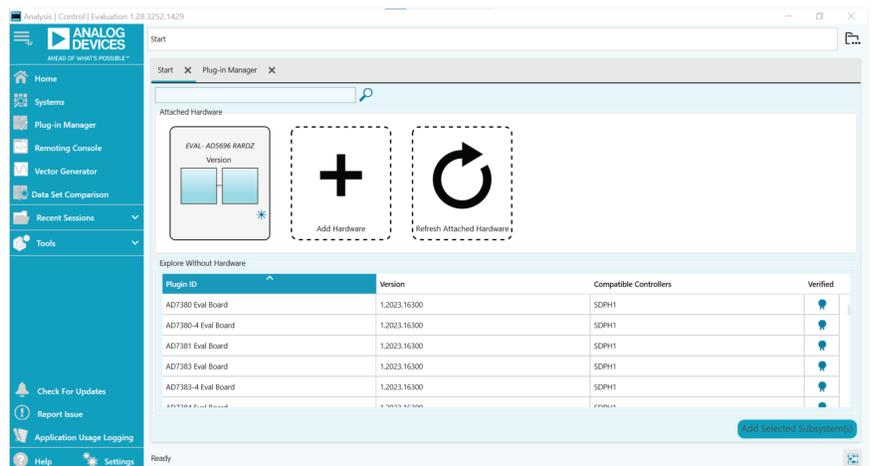
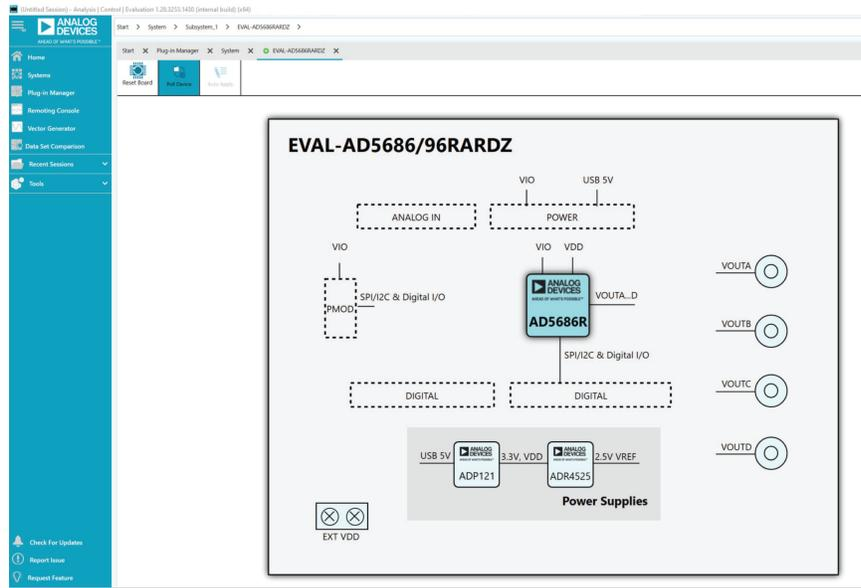
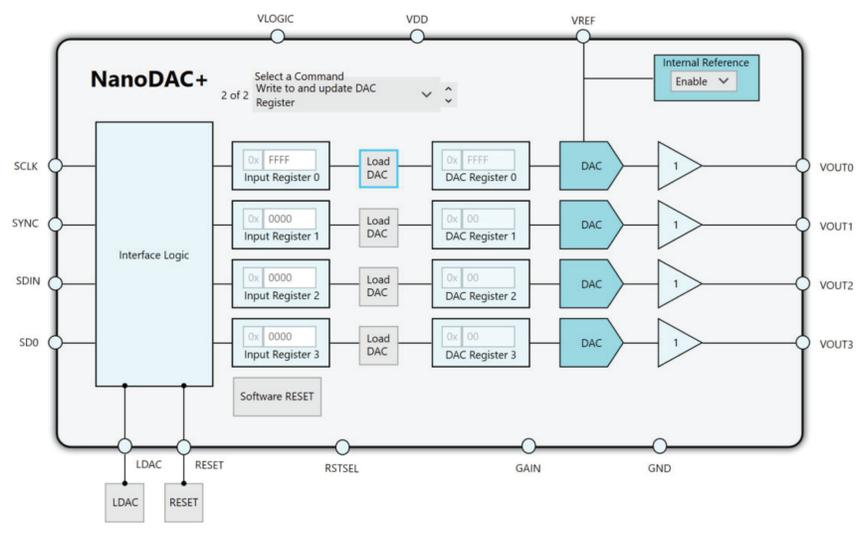
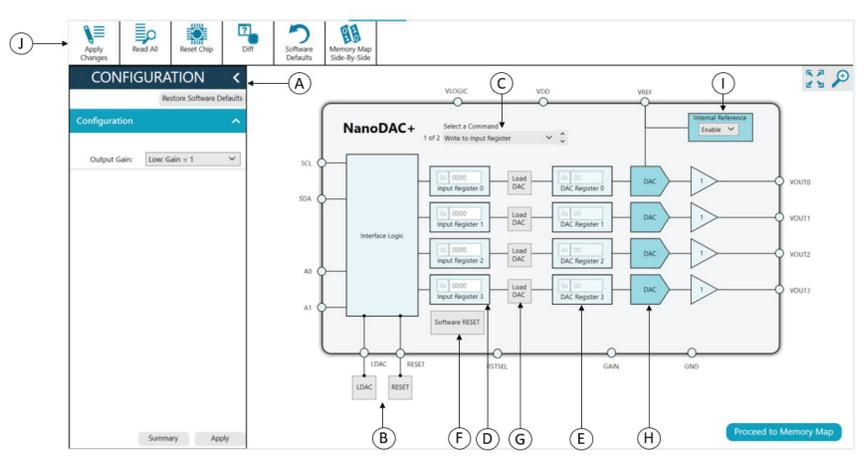

Figure 2. ACE Software Main Window
Figure 3. Board View of the EVAL-AD5686RARDZ or the EVAL-AD5696RARDZ
Figure 4. Chip Block Diagram View of the AD5686R or the AD5696R
Figure 5. Block Diagram with Labels
Figure 2 to Figure 4 for the EVAL-AD5686RARDZ but functionality is the same for the EVAL-AD5696RARDZ):
2. Run the ACE application, and the main window appears as shown in Figure 2. The EVAL-AD5686RARDZ or the EVAL-AD5696RARDZ evaluation board plugin appears in the **Attached Hardware** section of the **Start** tab.
3. Double-click the **EVAL-AD5686RARDZ** plugin or the **EVAL-AD5696RARDZ** plugin as shown in Figure 2 to open the board view as shown in Figure 3.
4. Double-click the **AD5686R** chip or **AD5696R** chip shown in Figure 3 to access the chip view as shown in Figure 4. This view provides a basic representation of the EVAL-AD5686RARDZ or the EVAL-AD5696RARDZ functionality. The main function blocks of these evaluation boards are labeled in Figure 5.
Some of the blocks and their functions are described in this section as they pertain to the EVAL-AD5686RARDZ or the EVAL-AD5696RARDZ. The block diagram is shown in Figure 5, and Table 1 describes the functionality of each block.